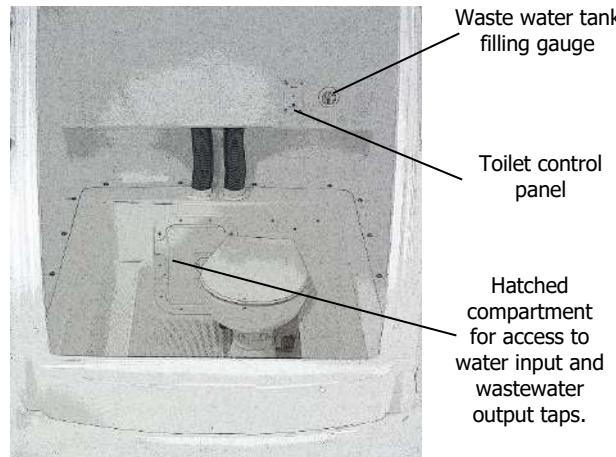
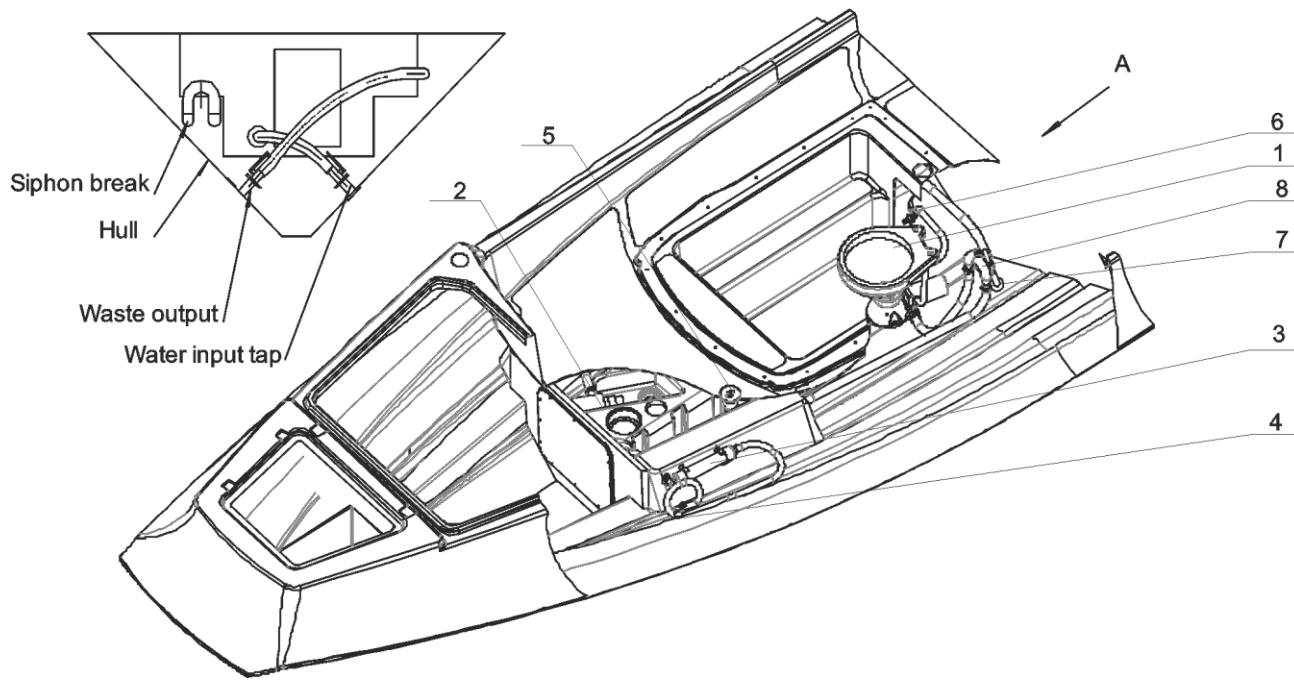

Fig. 39. Electric toilet.
Fig. 40. Waste water system.
Waste water system of a boat (see fig. 40 on the previous page):
Before using a toilet, you should open water input tap (fig. 40, pos. 6). If you in offshore where the discharge of biodegradable wastewater in permitted, open overboard discharge valve. (fig. 40, pos. 7). Both taps are located in the compartment behind the toilet (fig. 39).
To wash off the toilet push and release the button on the toilet control panel (fig. 39).
The filling sensor (fig. 39) of wastewater tank (fig. 40, pos. 2) is located near the toilet control panel. The discharge of wastewater tank can be done by sewage truck at a port. Connect the fitting of the receiving hose of the sewage truck with pump-out deck fitting (fig. 40, pos. 5) located on the deck, next to the steering console to do so.